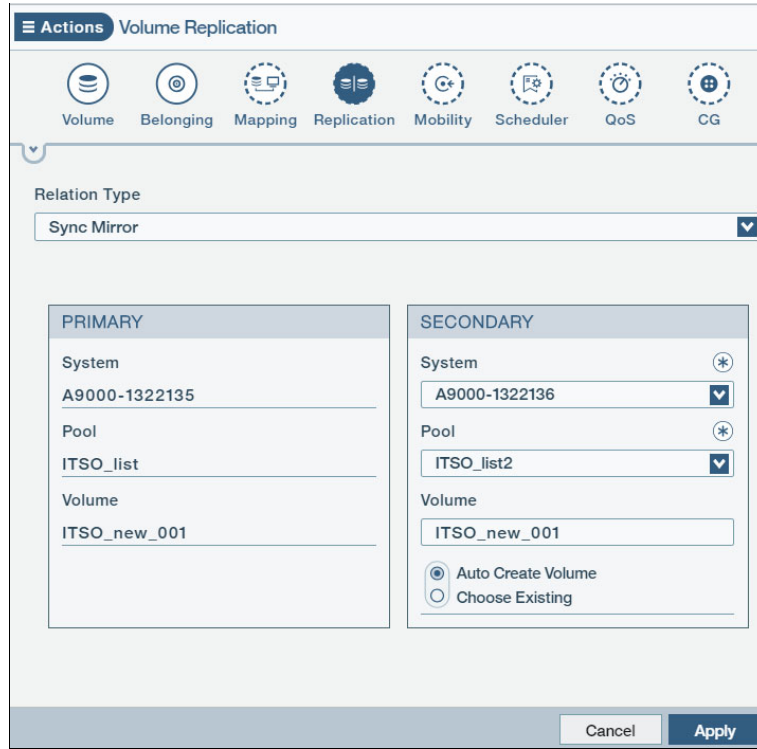

Figure 4-19 Volume sync mirror parameters
- Then add the details of the **Secondary** system. The target volumes are created automatically when two or more volumes are selected for mirroring. When setting up a mirror for one volume, you can select the target volume name and decide if a new volume is created or an existing volume is used. Figure 4-19 shows the parameters for synchronous mirroring for one volume. Note that you can choose to create the volume on the secondary system automatically or select an existing volume.